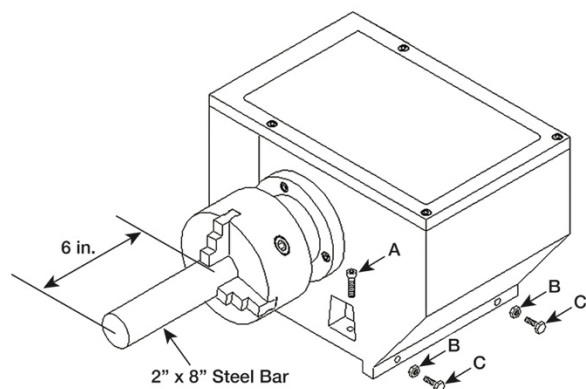

Figure 14-3: Headstock Alignment
3. Place two inches of bar stock into chuck and tighten chuck (see Figure 14-3). Do not use the tailstock or center to support the other end.
6. If the measurements are not the same and adjustment is required, loosen the four bolts (A, Figure 14-3) that hold the headstock to the bed. Do not loosen completely; some drag should remain. Note: Two bolts are on the chuck side of the headstock, and the other two bolts are behind the large gear behind the end panel door.
7. Loosen two hex nuts (B, Figure 14-3) found on the two adjusting bolts located on the backside of headstock. Adjust the bolts (C, Figure 14-3) for alignment and tighten hex nuts. Tighten the headstock bolts and make another cut. Keep adjusting screws after each cut until the bar stock measurements are the same. Tighten all headstock bolts and jam nuts on adjusting screws.